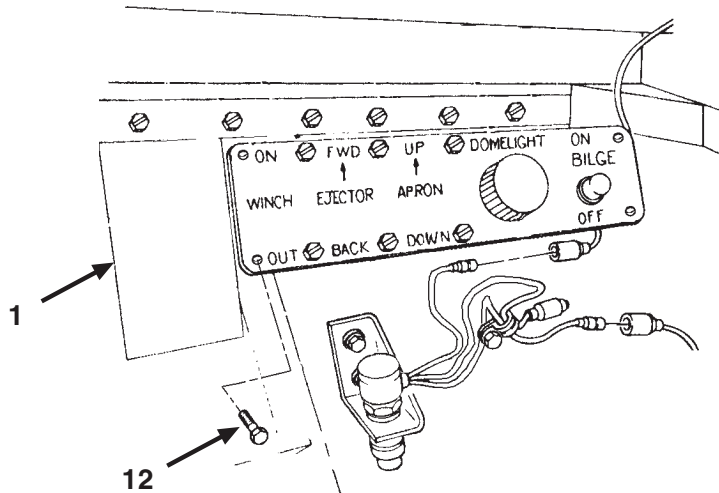

Figure 89. Control Box Power Wiring Harness.
Step 2 applies to Figure 89.
2. Remove four screws (item 12) from ejector panel (item 1) and move panel downward, retaining screws for future use.